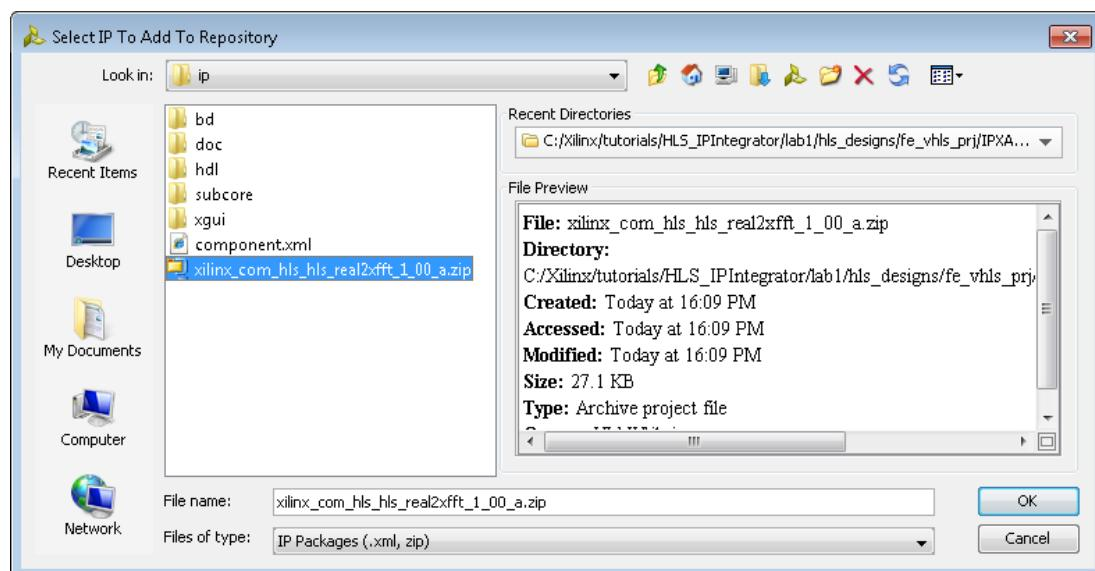

Figure 193 Add the HLS IP to the Repository
- Select the xilinx_com_hls_hls_real2xfft_1_00_a.zip file (Figure 193)